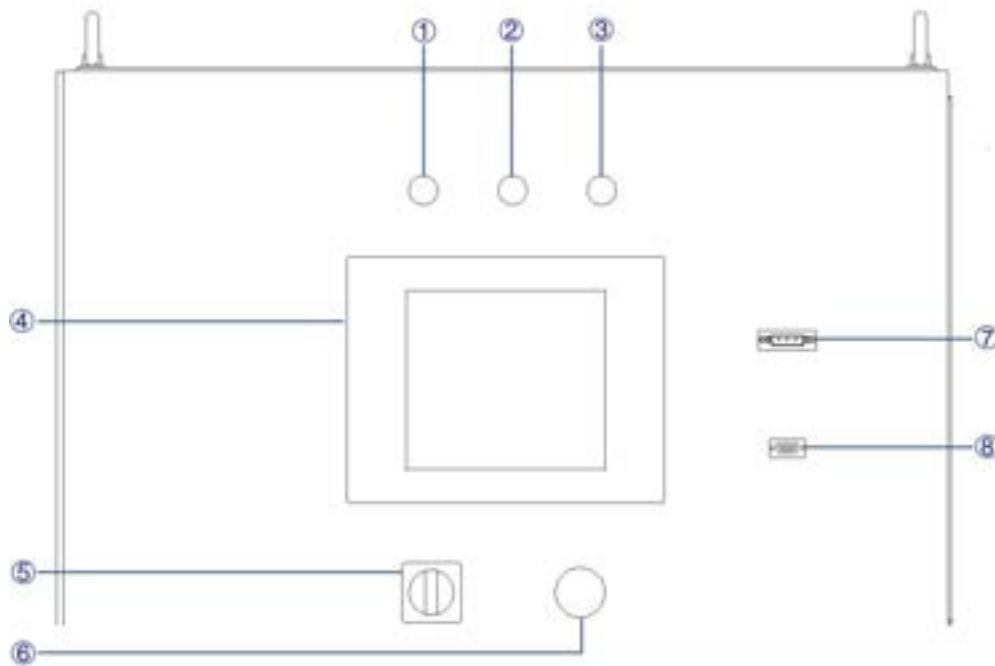
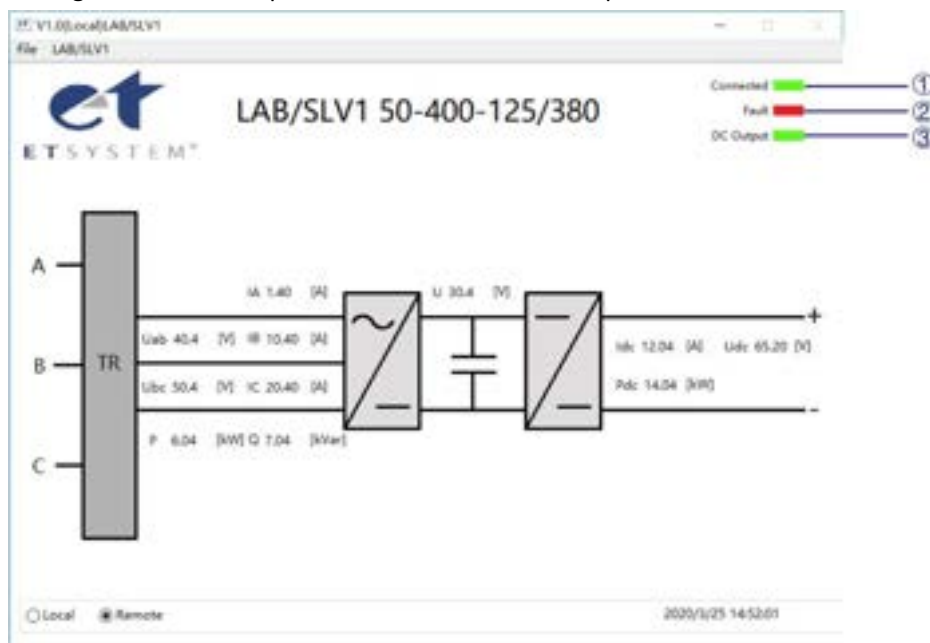

Figure 3-3 Front Panel
Figure 5-1 Main panel
Turn clockwise to close the control switch on front panel (figure 3-3⑤), the power supply is standby. If the power supply communication connection is normal, the white light will be always on (figure 3-3①).
LAB/SLV1 series provides GUI software, which is installed on the front touch screen, using the windows OS. (the software can also be installed on the control PC connected to the power supply). A few seconds after the power supply is initialized, the control unit and touch screen begin to work, the power supply is standby. If the power supply communication is normal, the white light (Figure 3-3①) and the “connected” green light (Figure 5-1①) are always on. All functions and parameters can be accessed through the TFT-Touch panel or GUI software to set up and run.